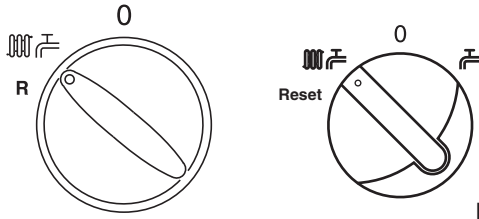

Fig. 20
NOTE: Depending upon model of boiler different types of Selector Switch and Central Heating Control Knob will be fitted (Figs. 20 & 21).
1. Ensure that there is power to the boiler (though it is not necessary for there to be any heating demand). Turn the Selector Switch (Fig. 20) to the boiler ON (central heating & domestic hot water) position.